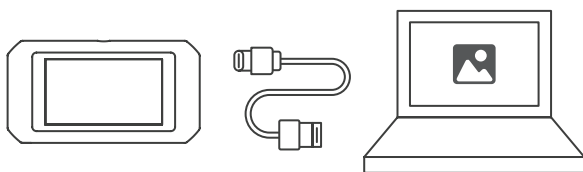

Figure 4.1.1
2. Connect the TC003 camera to a Windows-based computer with the supplied USB Cable (see Figure 4.1.1).